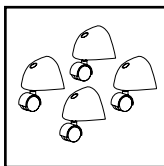

FIGURE 1
1. You will find four casters assemblies **FIGURE 1**, and four screws with your wet/dry vacuum.